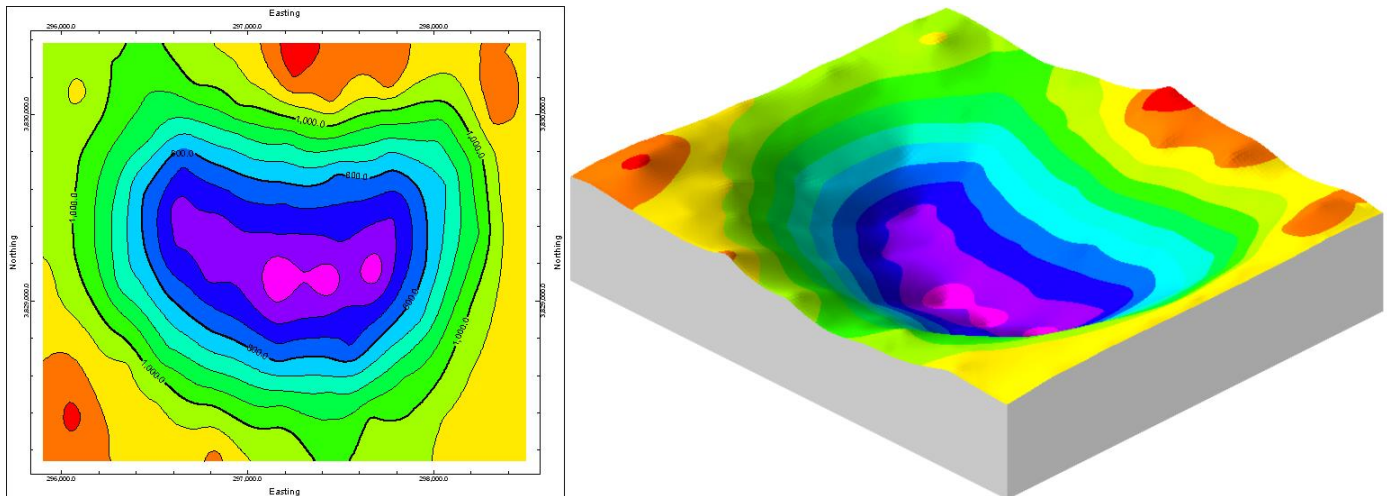

Figure 12
- Click the *Continue* button and a contour map and 3-D surface diagram (Figure 12) will be created. Your results may vary depending upon settings within the *2D Grid Map* and *3D Grid Diagram* sub-menus.